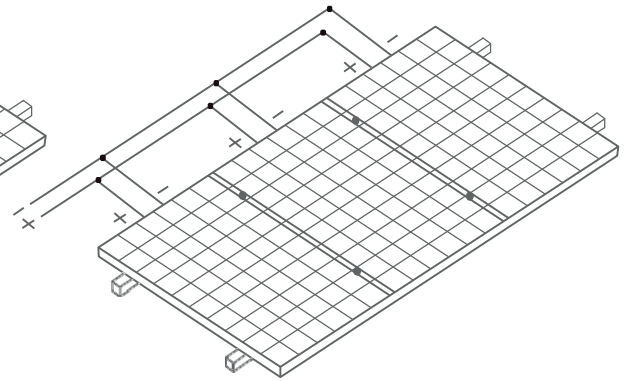

Figure 8 Connection in Parallel
- When connected in parallel, the current output is equal to the sum of each string's current (as shown in Figure 8). Fuse is necessary for each module string. Please take reference to the local regulation. Recommended maximum parallel Modules configurations: Fuse rating/(1.25* short-circuit current).